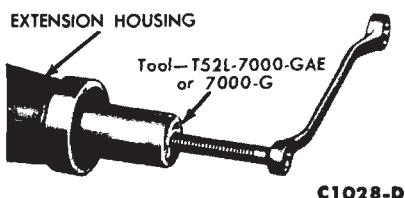

FIG. 6—Removing Extension Housing Bushing and Seal
2. Insert the tool shown in Fig. 6 into the extension housing until it grips on the front side of the bushing.